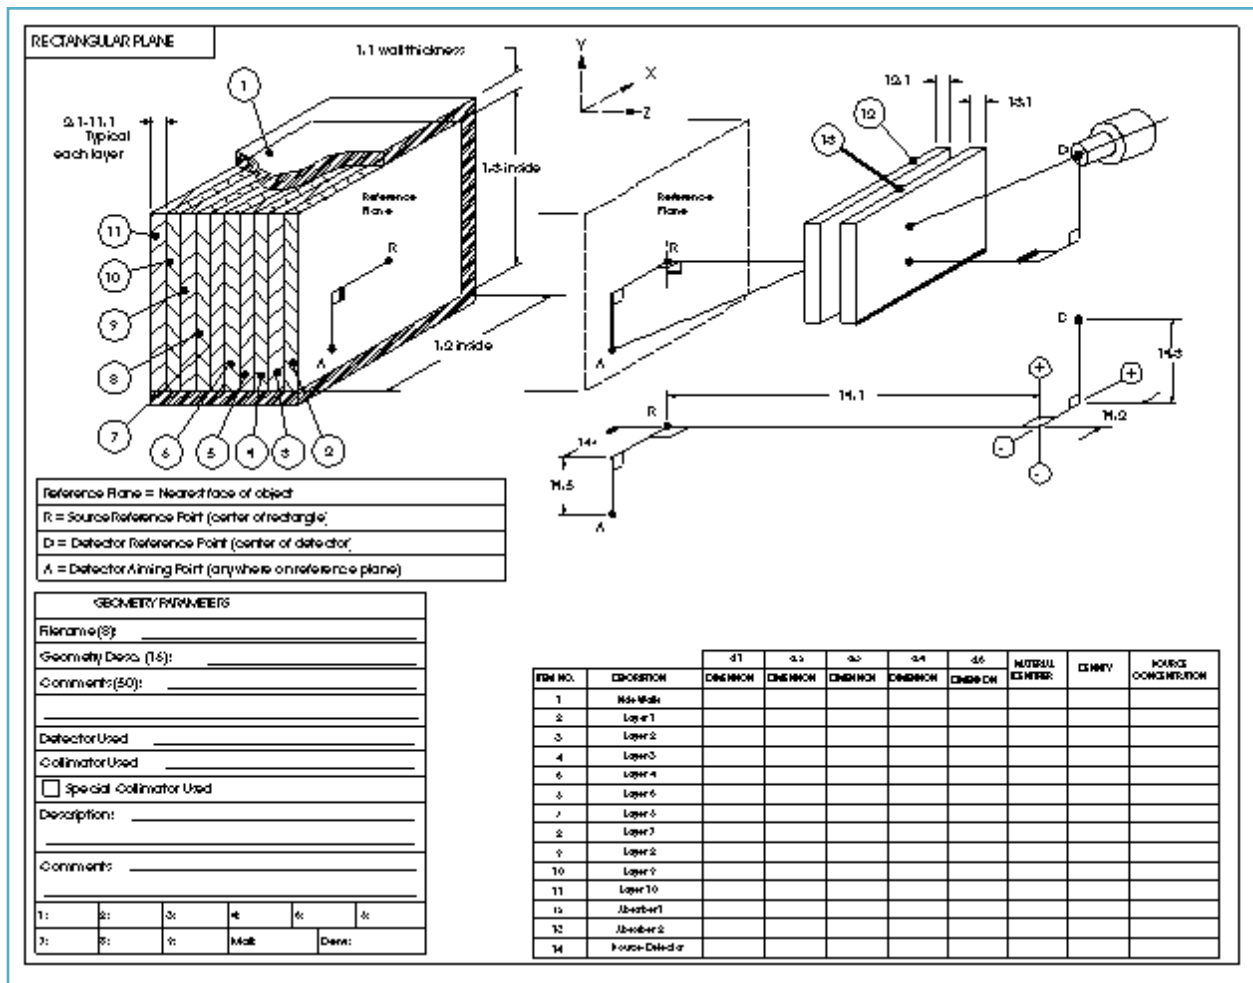

Figure 12
Since this is the most traditional of *in situ* assays, it will be used for the first example. These assays, as well as those for walls and ceilings, are normally based upon the Circular Plane or Rectangular Plane template shown in Figure 12. The procedure is as follows:
- a. The distance from the detector to the surface (Item 14.1 in Figure 12. If the detector is not perpendicular to the surface and not aimed at the center of the object, you need the other 14.2-5 measurements.)
Referring to Figure 12, items 2 through 11 represent ten different layers of material. For any or all of them you can enter a thickness (assumed or measured), the material, and density, and the relative concentration of each layer [absorbers have 0 concentration]. After entering the desired "What if...?" assumptions, re-run the ISOCS calibration, analyze the sample spectrum again, and you can immediately see the results of these new assumptions. This type of analysis can be used to define the boundary conditions for each measurement.